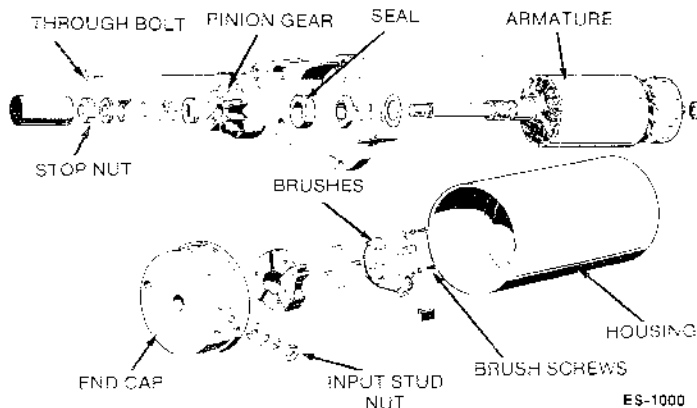

FIGURE 18. STARTER DISASSEMBLY
1. Remove the through-bolts and separate the end cap, the housing and the armature (see Figure 18).